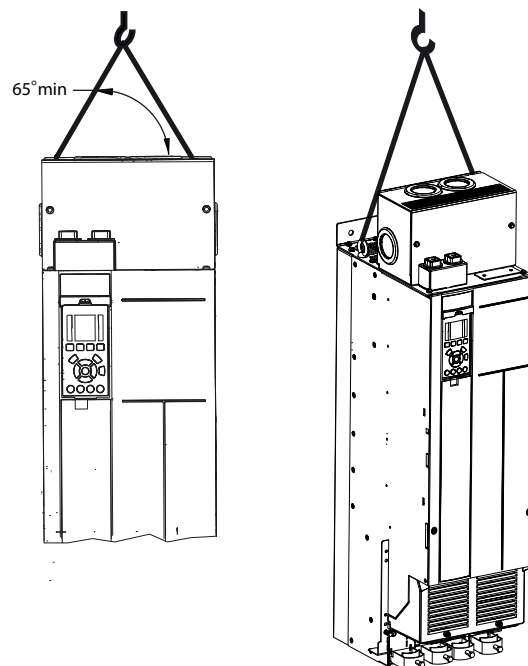

Figure 4.2 Lifting the Drive
Always lift the drive using the dedicated eye bolts at the top of the drive. See Figure 4.2.
- The angle from the top of the drive module to the lifting cables affects the maximum load force on the cable. This angle must be 65° or greater. Refer to Figure 4.2. Attach and dimension the lifting cables properly.